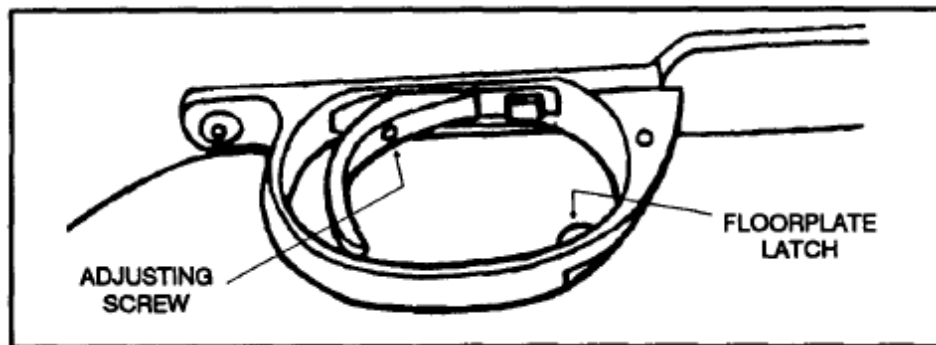

Figure 2-6. Trigger adjustment.
c. Trigger Assembly. Pulling the trigger fires the rifle when the safety is in the "F" position. The operator may adjust the trigger pull force from a minimum of 2 pounds to a maximum of 8 pounds. This is done using the 1/16-inch socket head screw key provided in the deployment kit. Turning the trigger adjustment screw (Figure 2-6) clockwise increases the force needed to pull the trigger. Turning it